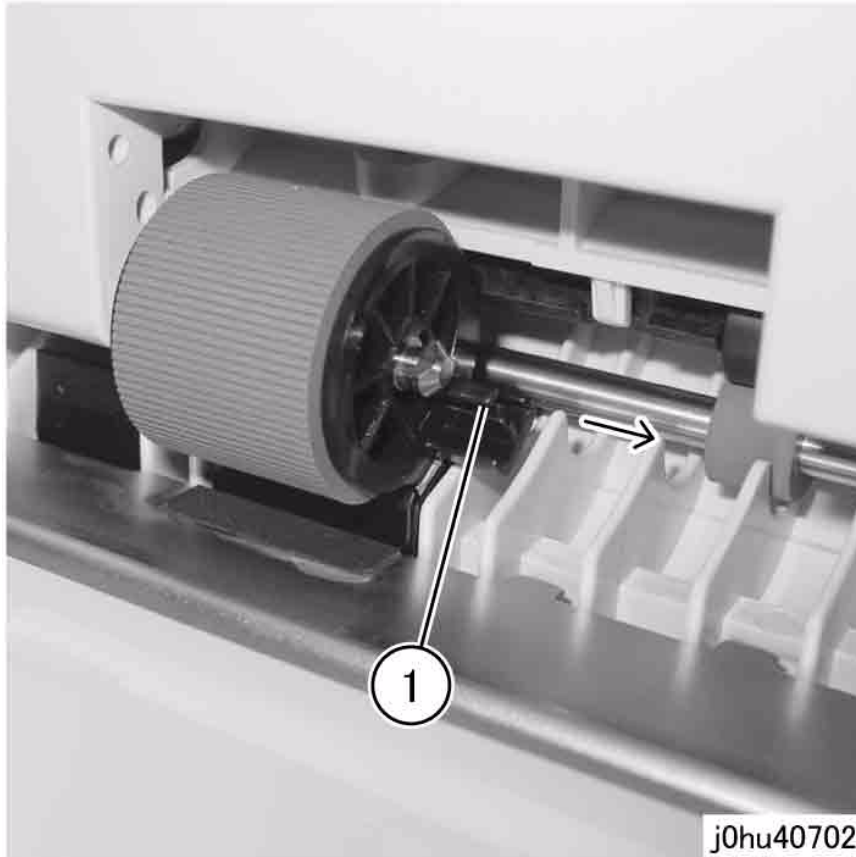

Figure 2 Remove Bypass Feed Roll
3. Remove the Bypass Feed Roll (Figure 2).